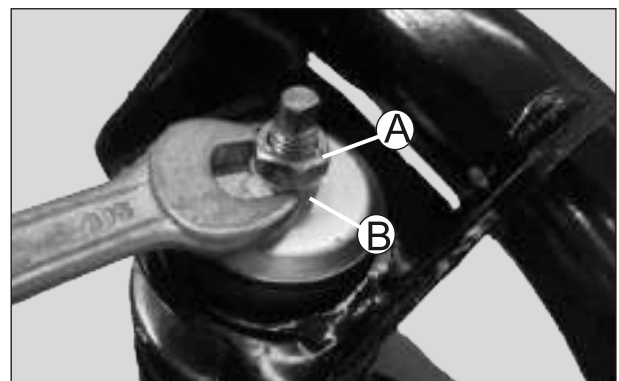

Fig. 5.30
- Hold the hexagonal bottom nut front shock absorber assembly top mounting (B). (Fig. 5.30)
- Loosen and remove 1 no. hexagonal nut top from front shock absorber assembly top mounting (A). (Fig.5.30)